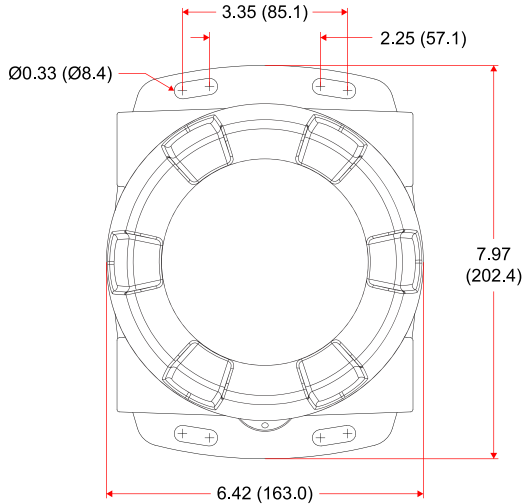
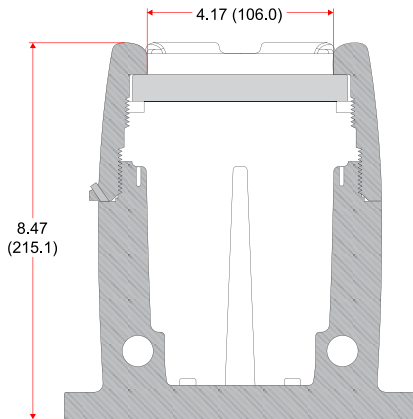

Figure 1. Enclosure Dimensions – Front View
Figure 2. Enclosure Dimensions – Side Cross Section View
The ProtEX-MAX has four slotted mounting flanges that may be used for pipe mounting or wall mounting. Refer to *Figure 1* and *Figure 2* below.
- Prepare a section of wall approximately 7" x 8.5" (178 mm x 216 mm) for controller mounting by marking with a pencil the mounting holes (shown in *Figure 1*) on the wall.
- Select the appropriate mounting screws for the mounting surface to be used. The mounting holes diameter is shown on *Figure 1*.